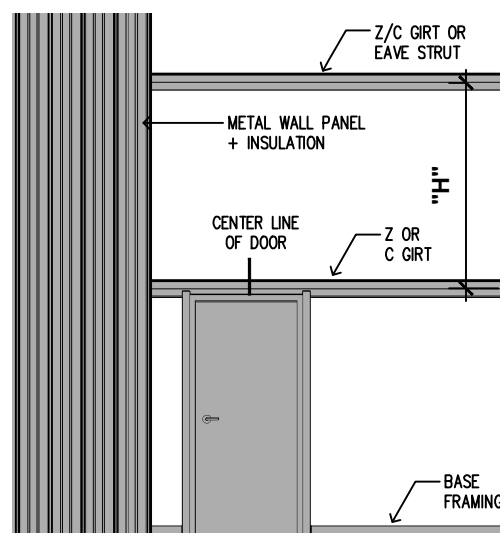

FIGURE 2
- a. Measure the distance (H) between girts or girt and eave strut. See **Figure 2**.